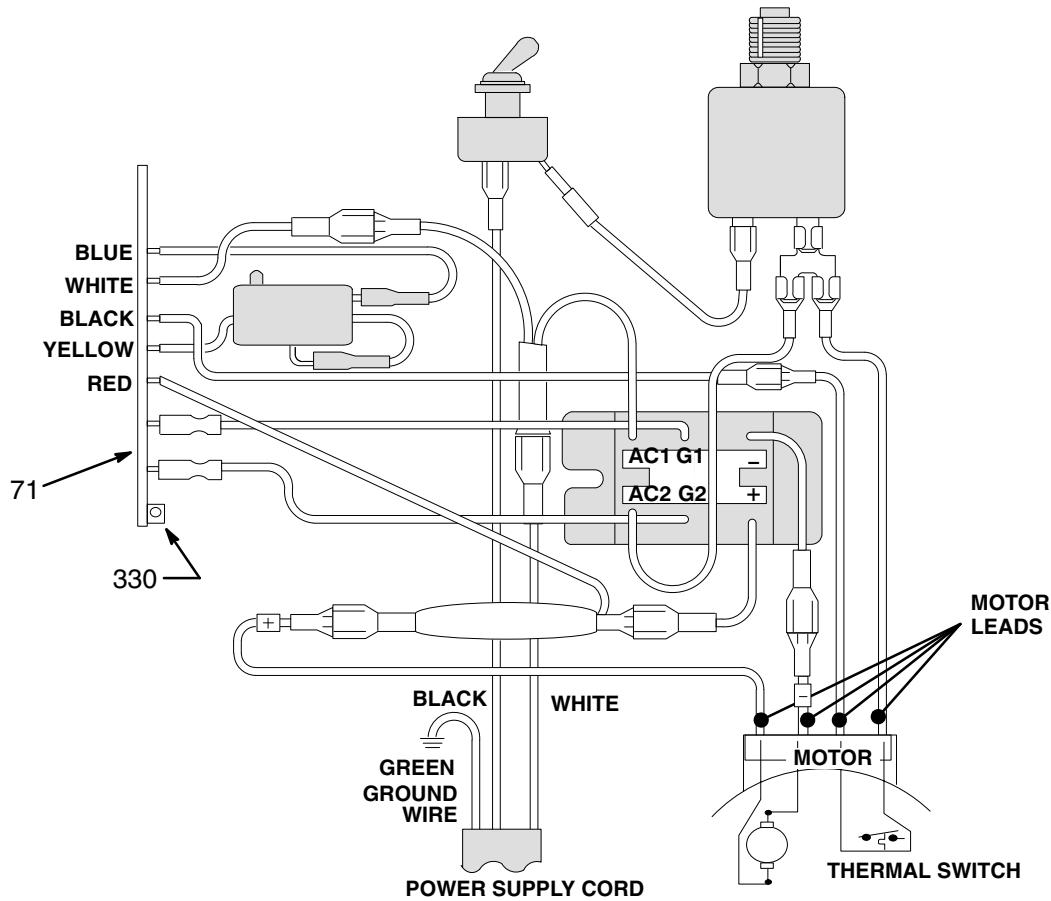
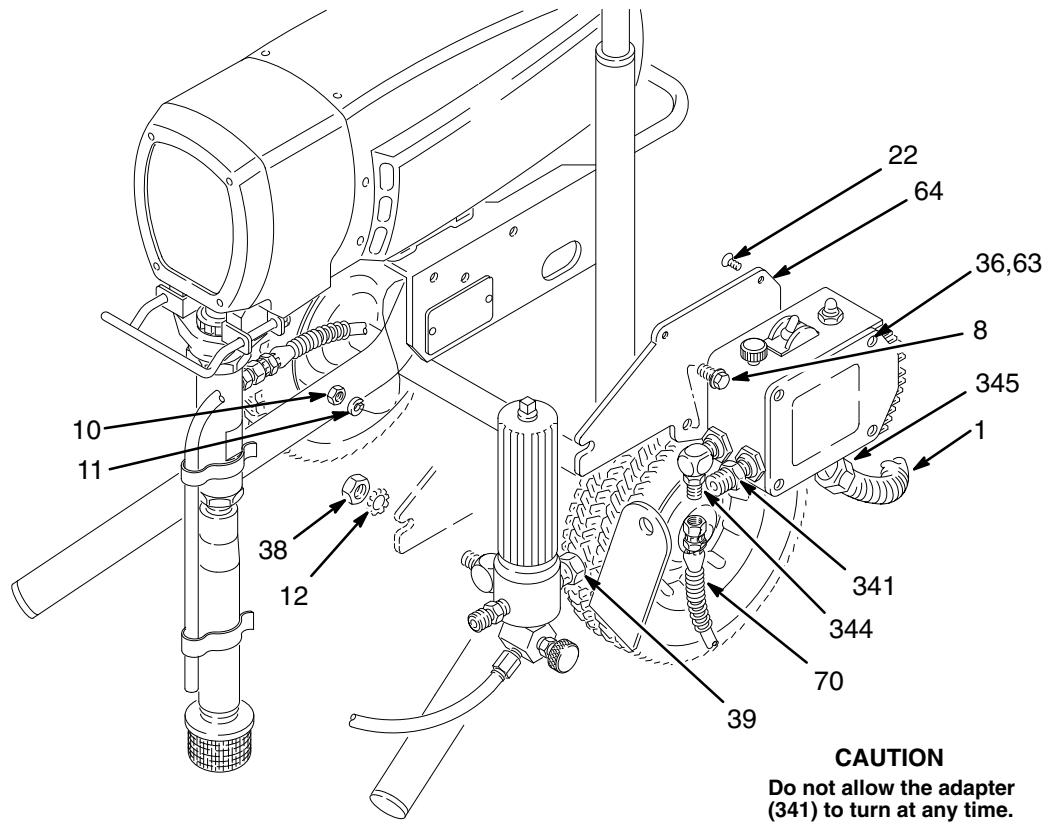

Fig 28-2
Fig 29-1
**NOTE:** Refer to Fig 29-1 for this procedure.
2. Disconnect the fluid outlet hoses. Disconnect the hose (70) between the pump and pressure control.
3. Loosen the filter bracket nut (38).
4. Hold the hex of the pressure control adapter (341) firmly with a 3/4" open end wrench. Use an adjustable wrench to unscrew the swivel union (39), and then remove the fluid filter (66).
5. Remove the pressure control cover (63). Disconnect the four motor leads. See Fig 28-2.